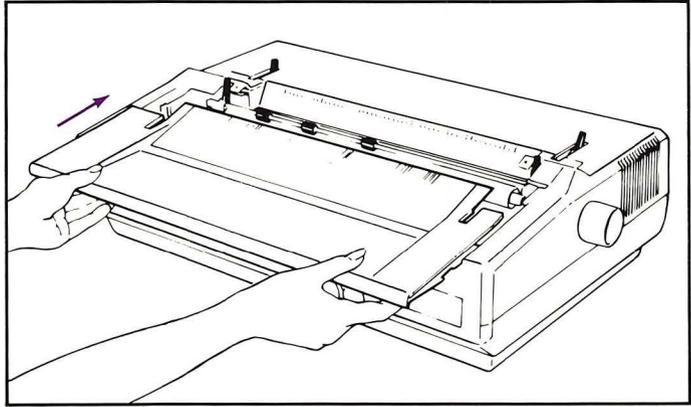

Figure 3. Replacing the Access Cover
8. Replace the access cover by inserting the cover's plastic guides into the spaces in the tracks that run along each side of the case. Hold the cover level and gently slide it toward the back of the printer until it's completely closed. See Figure 3.